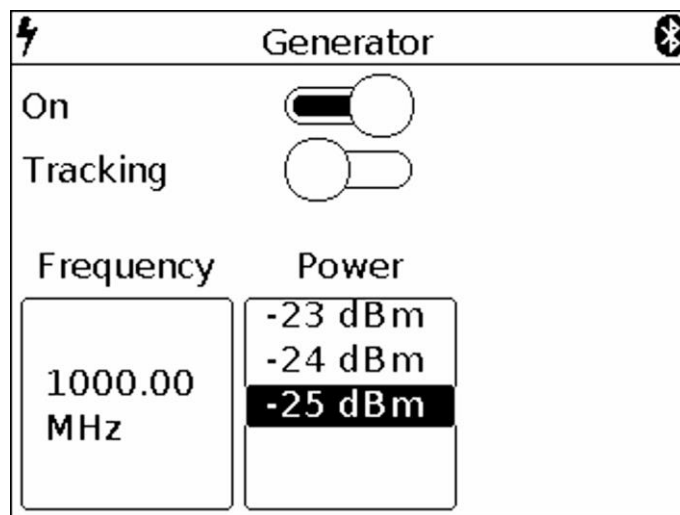
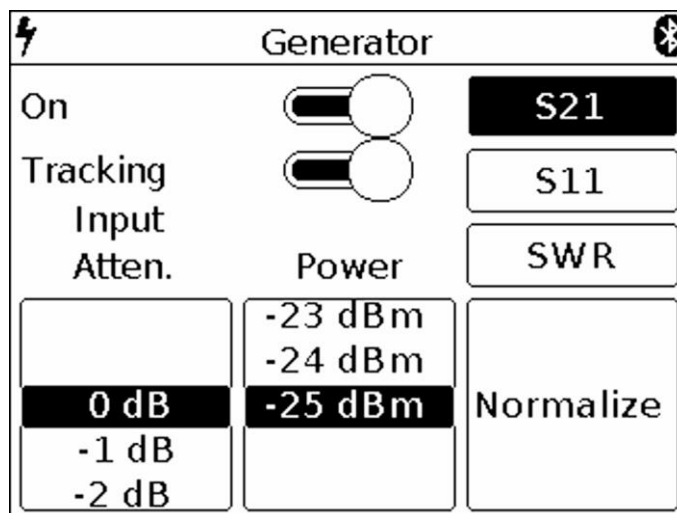

Figure 14 – Setting the frequency and power output of the generator
Figure 16 – Enabling the mode of determining the amplitude-frequency characteristic
7.6.2. To turn on the internal output generator, move the “slider” across the screen to the right. On the screen will open the window for setting the frequency of the **Frequency** and the power of the **Power** of the generator output signal, as in Figure 14.
7.6.4. Depending on the equipment to which the generator output signal is applied, set the signal power value in the range from -15 to -25 dBm. Setting the parameter is performed by “scrolling” the values to the fixed selection area (Figure 14).
7.6.5. To determine the amplitude-frequency characteristic and measure the standing wave ratio, move the “slider” to the right opposite the **Tracking** parameter (Figure 14). The setup submenu appears as shown in Figure 16.
7.6.6. Set the desired attenuation level of the **Input Atten** attenuator, from 0 to -30 dB. Setting the parameter is performed by “scrolling” the values to the fixed selection area (Figure 16).